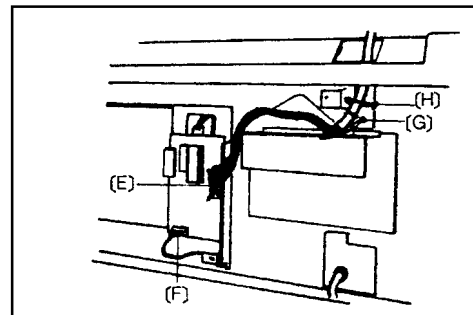

Fig. 3
7. Install the ADF control board on the main board as shown. (Fig. 3)
10. Secure earth wire [G] with a electric screw (M4 x 8). (Fig. 3)
11. Install the twist band [H] and place the interface harness on it, then twist it tightly. (Fig. 3)